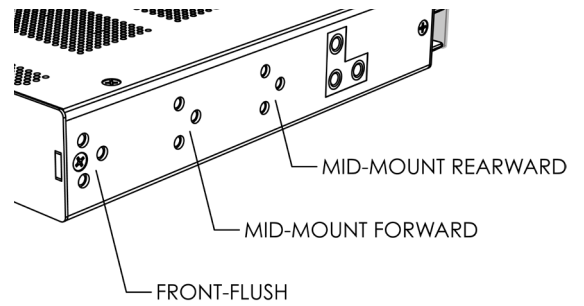

Figure 2. Mounting ear positions
- Step 1.** Select the equipment rack location for installation of the fuse panel. Orient the rack mount ears appropriately for either 19 in. or 23 in. rack and select either the front-flush mount, mid-mount forward, or mid-mount rearward position to install the mounting ears (see Figure 2).